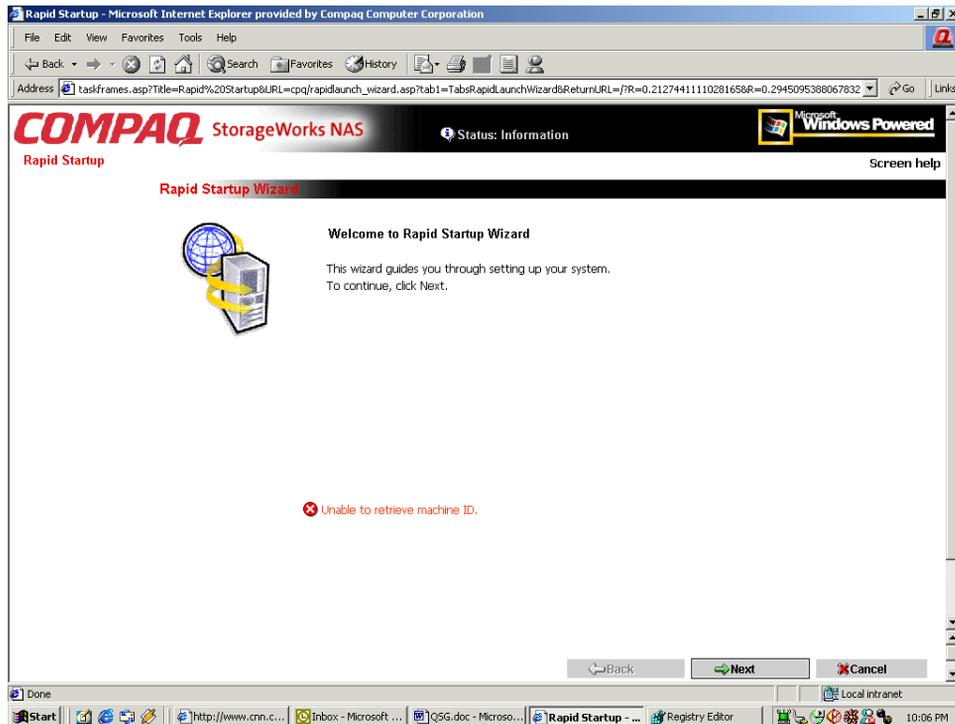

Figure 3-4: Rapid startup wizard screen
9. Select the unconfigured *StorageWorks* NAS device from the device list. This launches the WebUI configuration application (Rapid Startup) on the target *StorageWorks* NAS device as shown in Figure 3-4.
2. Open Internet Explorer on the Windows-based PC. Enter `http://`, the serial number of the NAS E7000 followed by a dash (-), followed by `:3201`. Press **Enter**. This launches the WebUI configuration application (Rapid Startup) on the target *StorageWorks* NAS device as shown in Figure 3-4.